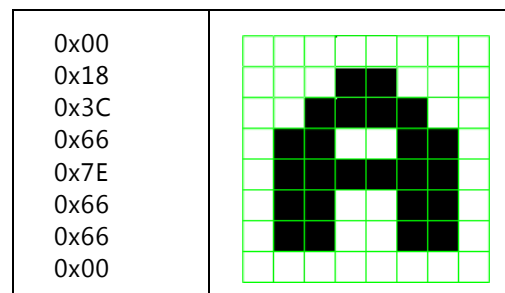

Figure D-1: 8x8 1-bit per Pixel Font Example
Figure D-1 shows an example character (the capital letter 'A') and the corresponding data in the Font RAM to represent that character when the graphics controller is configured for an 8x8 1-bit per pixel font. This example has 8-bits per character line.
**Note:** Actual memory writes for the character in Figure D-1 can be found in Table Table D-12.